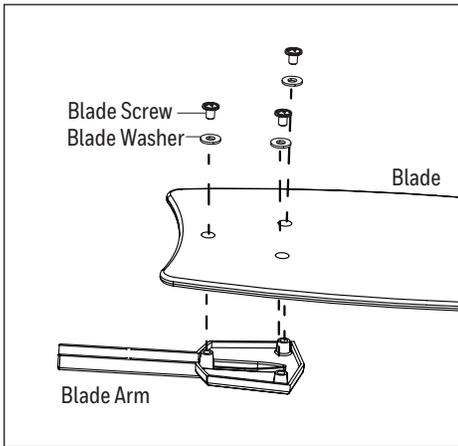

Figure 5.4
- Partially insert the blade screws along with blade washer through blade and into the blade arm. Tighten each blade screw with a Phillips screwdriver, starting with the one in the middle. Repeat this step for the remaining blades and blade arms (Figure 5.4).